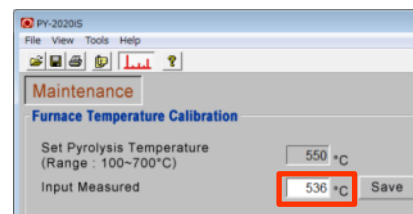

Fig. 1.2
1.2 Note the value displayed in **“Maintenance”** screen, framed in red (Fig. 1.2). If this value is **“0”**, the temperature calibration has been reset. When calibrated value is entered in Step 3 and subsequent steps, prepare to recreate a calibration curve as needed, because the pyrolyzer furnace actual temperature changes.